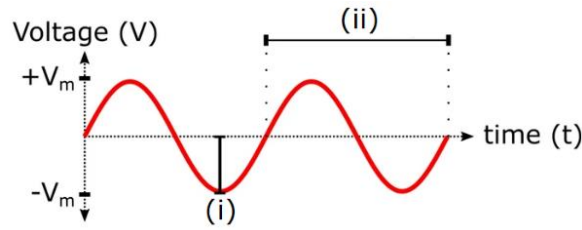

Figure 10 – Signal Parameters
b) Define the **TWO** parameters of the signal shown in Figure 10 and identified as (i) and (ii). Name the parameters in the space provided and define their SI units.